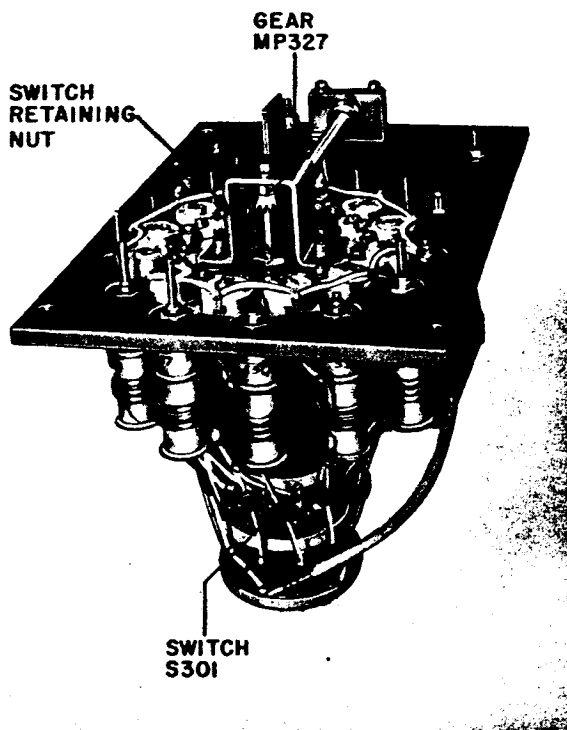

Figure 6-14. Radio Frequency Oscillator O-621/WRT-1, Replacement of Switch S301
Step 5. Refer to figure 6-14 and remove the pin from gear MP327.